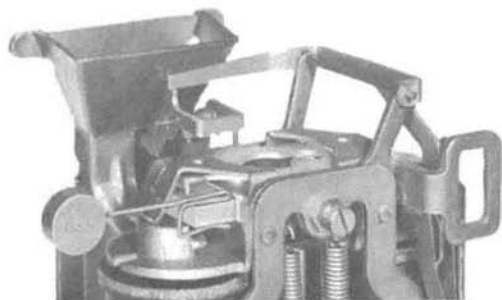

Fig. 63—Bias Margin Test
- To test in collect direction, place a 146A gauge on left side of armature (see Fig. 63).